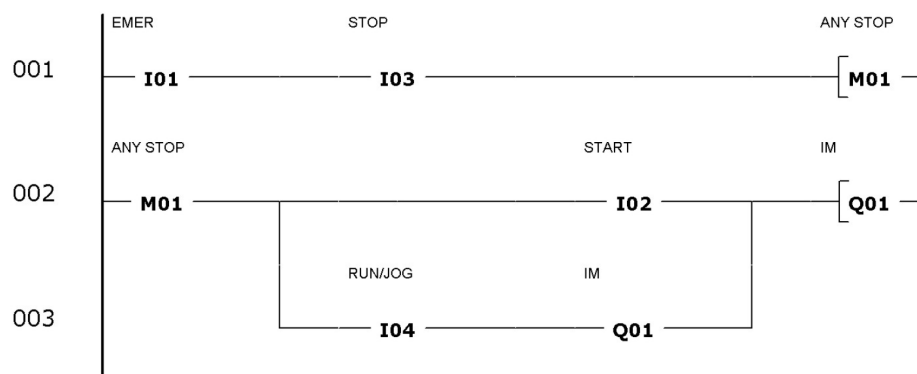

Figure 2-8. Jog/Run with selector switch ladder program.
Enter the program shown in Figure 2-8.
3. In the Figure 2-8 ladder program, which programming method was used to circumvent the PLC rung length limitation?
5. In the Figure 2-8 ladder program, under which circumstance is the motor jogging?